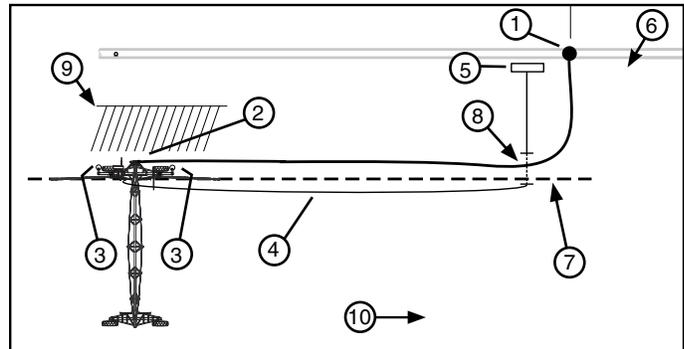

Figure 51-1 1. Shut Off Valve 6. Alternate Power Pedestal and Electric Cord Position
1. Connect the first hose to the pipeline shut off valve and linear cart swivel inlet, then latch in place. See Figure 51-1.
(b) Position the electric cord far enough away from the hose, so that the hose will not drag over it. To prevent interference between the electric cord, cart tires and hose, bury the electric cord in the area where interference will occur or when applicable, position the electric cord over the top of hose. See Figure 51-1.